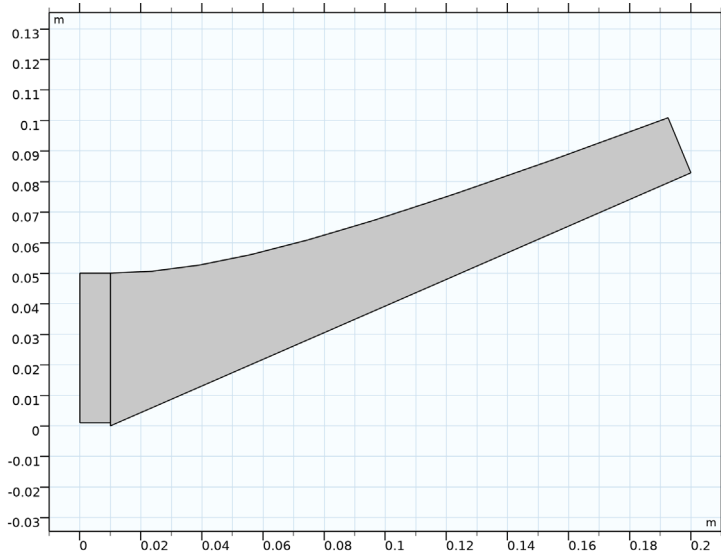
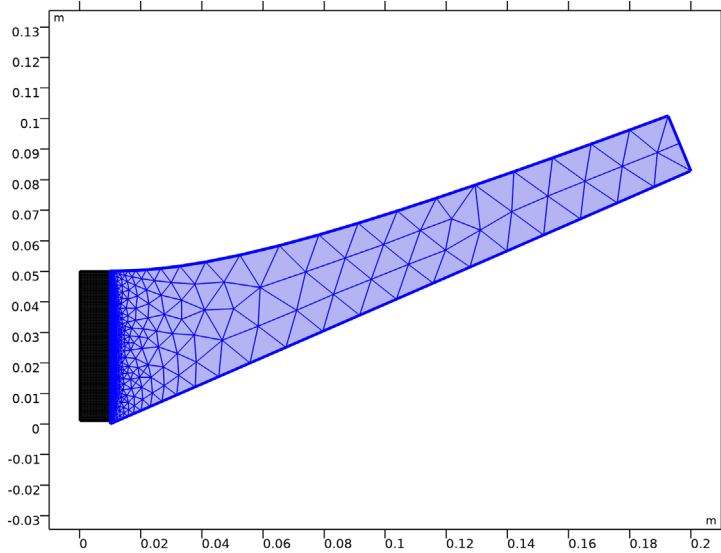

Figure 1: Geometry of the Pierce electron gun.
Figure 2: A fine mapped mesh is used in the beam path. The mesh coarsens as the distance from the beam is increased.
The gun geometry is shown in Figure 1. The interior edge separating the two domains is only kept for meshing purposes, since the space charge density distribution within the beam can be calculated more accurately using a finer mesh as shown in Figure 2.
- 4 Click the  **Zoom Extents** button in the **Graphics** toolbar. The plot should look like Figure 1.